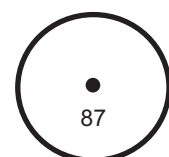

Figure 3: In-scope Aiming Dot
- In-scope measurement display. Figure 3 shows the In-scope aiming dot.